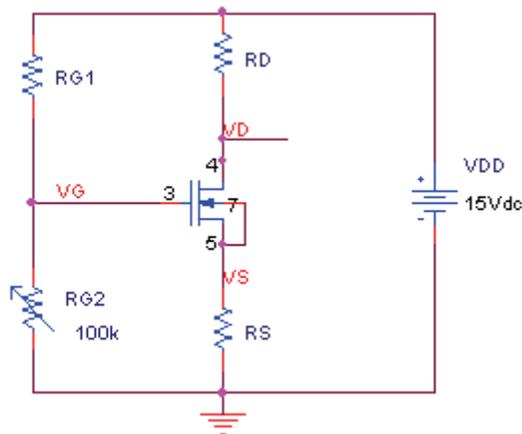
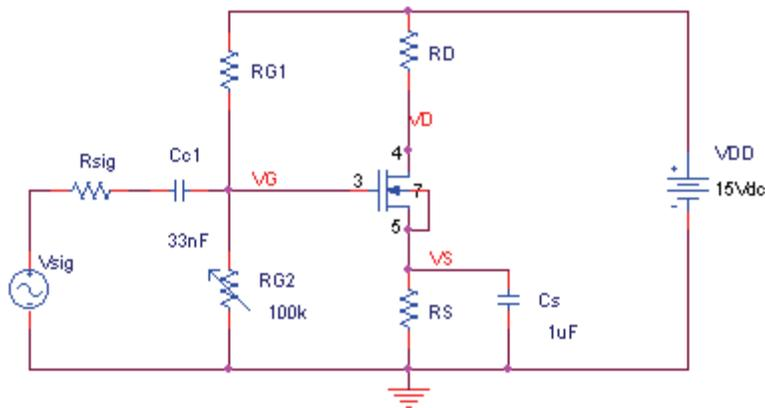

Figure 4: Biasing circuit of the common-source amplifier..
Figure 5: Common-source amplifier (R_{sig} is the internal resistor of the function generator and is about 50 Ohm).
- a. Build the circuit of Figure 4. Use the transistor between the pins 3, 4 and 5. Notice that we have connected the bulk (pin 7) to the source (pin 5) of the NMOS transistor. This can be done since we are only using a single NMOS transistor in the array. The reason for shorting drain-to-bulk is to eliminate the back-gate (body) effect on the threshold voltage. For the biasing resistor R_{G2} , use a 100 kOhm potentiometer.
- Modify the circuit of Figure 4 by adding the capacitors C_{C1} , and C_S as shown in Figure 5. Connect a sinusoidal input signal of 0.2V amplitude (0.4Vpp) and 5kHz frequency.